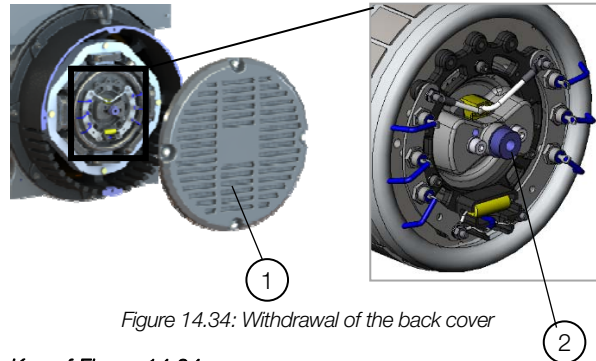

Figure 14.34: Withdrawal of the back cover
- 1) Withdraw the alternator exciter cover, to have access to the exciter rotor coupling bushing, according to Figure 14.34;
Key of Figure 14.34: